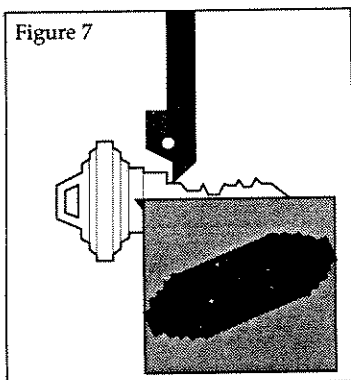

Figure 7
3. After the keys are aligned, move the carriage lever to the right (clockwise) until the cutter guide is slightly left of the cut closest to the head of the pattern key (See Fig. 7).